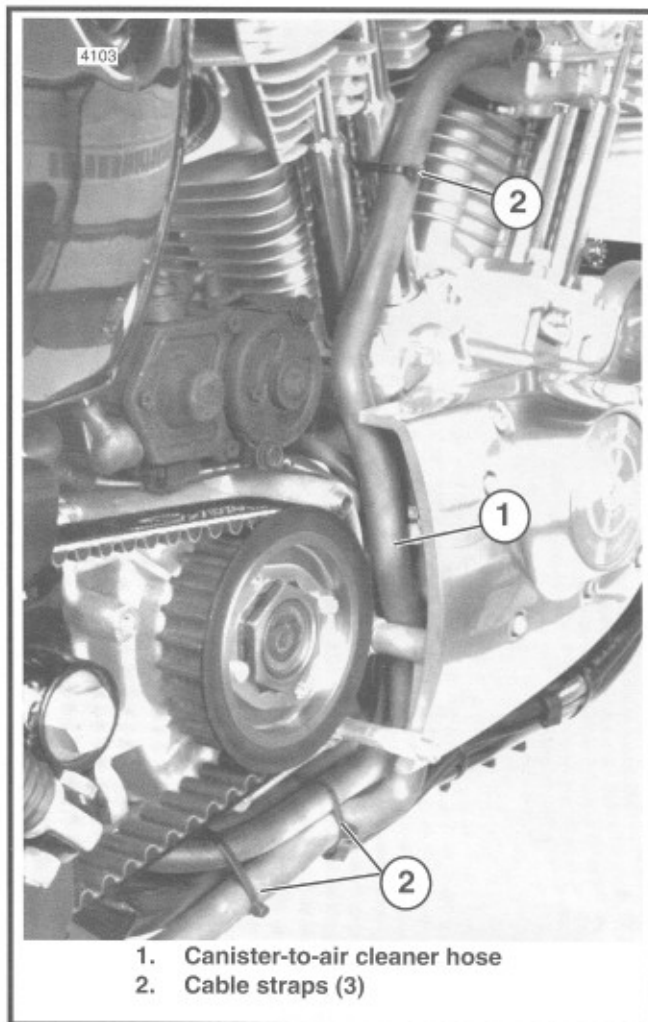

Figure 4-24. Canister-to-Air Cleaner Hose
1. See Figure 4-24. Connect one end of the canister-to-air cleaner hose (canister clean air inlet hose) to the fitting on the right side of the carbon canister. Route the hose forward along the right frame bottom tube and then upward through the rear section of the gearcase cover. Continue running the hose upward along the starter motor (right front side) and rear exhaust push rod cover before routing it forward to the air cleaner backplate fitting. Secure the hose at three points using cable straps.